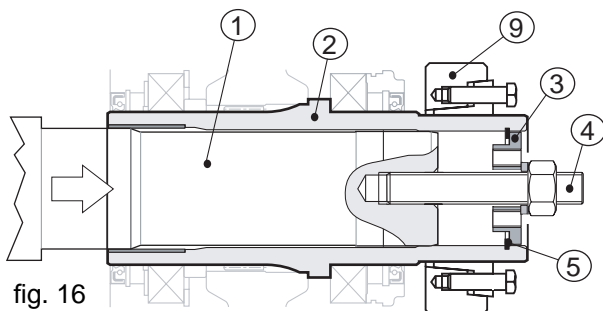

fig. 16
Now insert the inner seeger retaining ring (pos. 5) then the backplate (pos. 3). Now when you tighten the threaded rod, the two shafts will abut against each other (see Fig. 16).